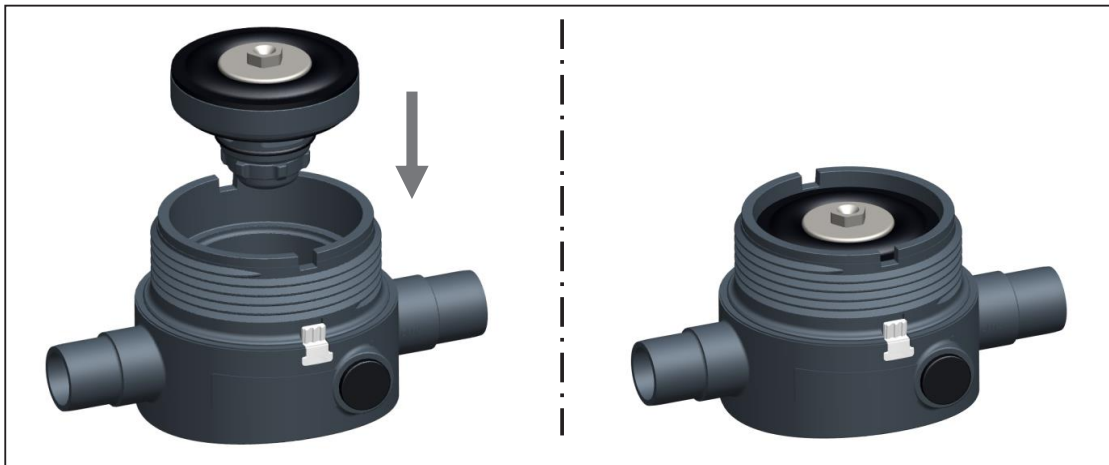

Fig. 12
- ▶ Position the cartridge in the body and push in, see Fig. 12